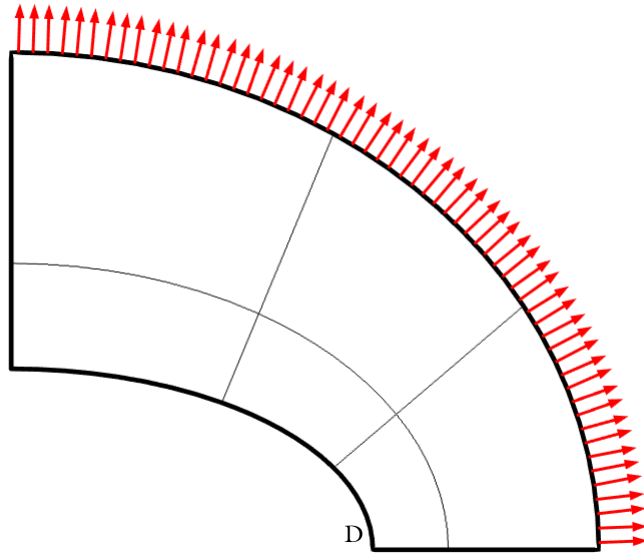

Figure 1: The geometry and load. Only the quarter which is analyzed is shown.
Due to symmetry in load and in geometry, the analysis only includes a quarter of the geometry as shown in Figure 1.
- The knowledge about where a stress concentration is expected suggests that you should use a mesh such that more elements are present in the region around point D to get optimal accuracy, see Figure 1.
The normal stress σ_y at the elliptic hole is evaluated at the point D located at $X = 2, Y = 0$ (see Figure 1). The target value according to Ref. 1 is 92.7 MPa. The value is based on an analytical result. The COMSOL results for the ‘coarse’ and ‘fine’ meshes are given in Table 1.